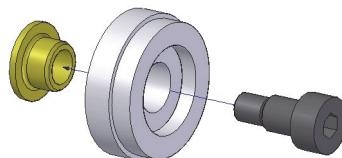

Figure 3-5 Idler-wheel assembly detail
3. Press the plastic bushing (spacer) into the magnetized wheel, then slide the shaft screw through the wheel from the other side (see Figure 3-5 on page 25).